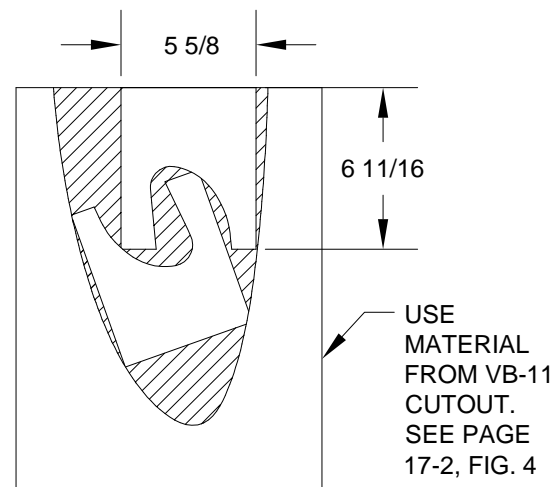
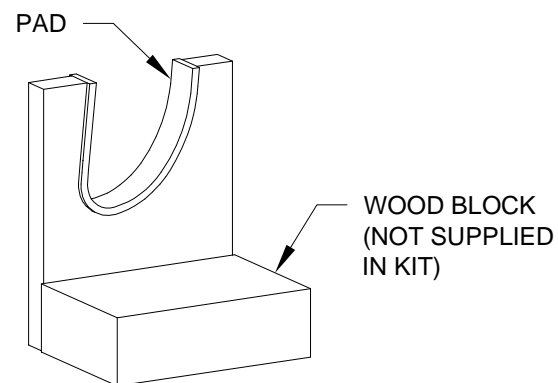

FIGURE 1: CRADLE MATERIAL
FIGURE 2: CRADLE
Step 1: The construction of the flap requires a flat work surface and three cradles (three per flap, six total) to hold the flap upright when riveting. Make some of them from the same material supplied for the wing leading edge and tank cradles as shown in Figure 1. Using an **FL-1004** Nose Rib as a template, cut out the cradles. As shown in Figure 2, cut them slightly oversize to allow for padding, such as duct tape, to prevent scratching the skins.